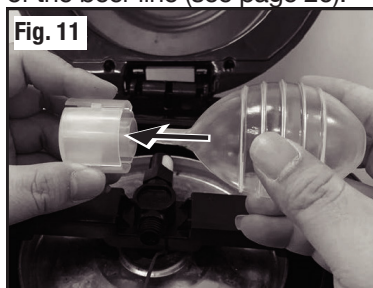

Fig. 11
7. Place the tip of the cleaning balloon onto the tip at the bottom of the fresh keg adaptor (Fig. 11).